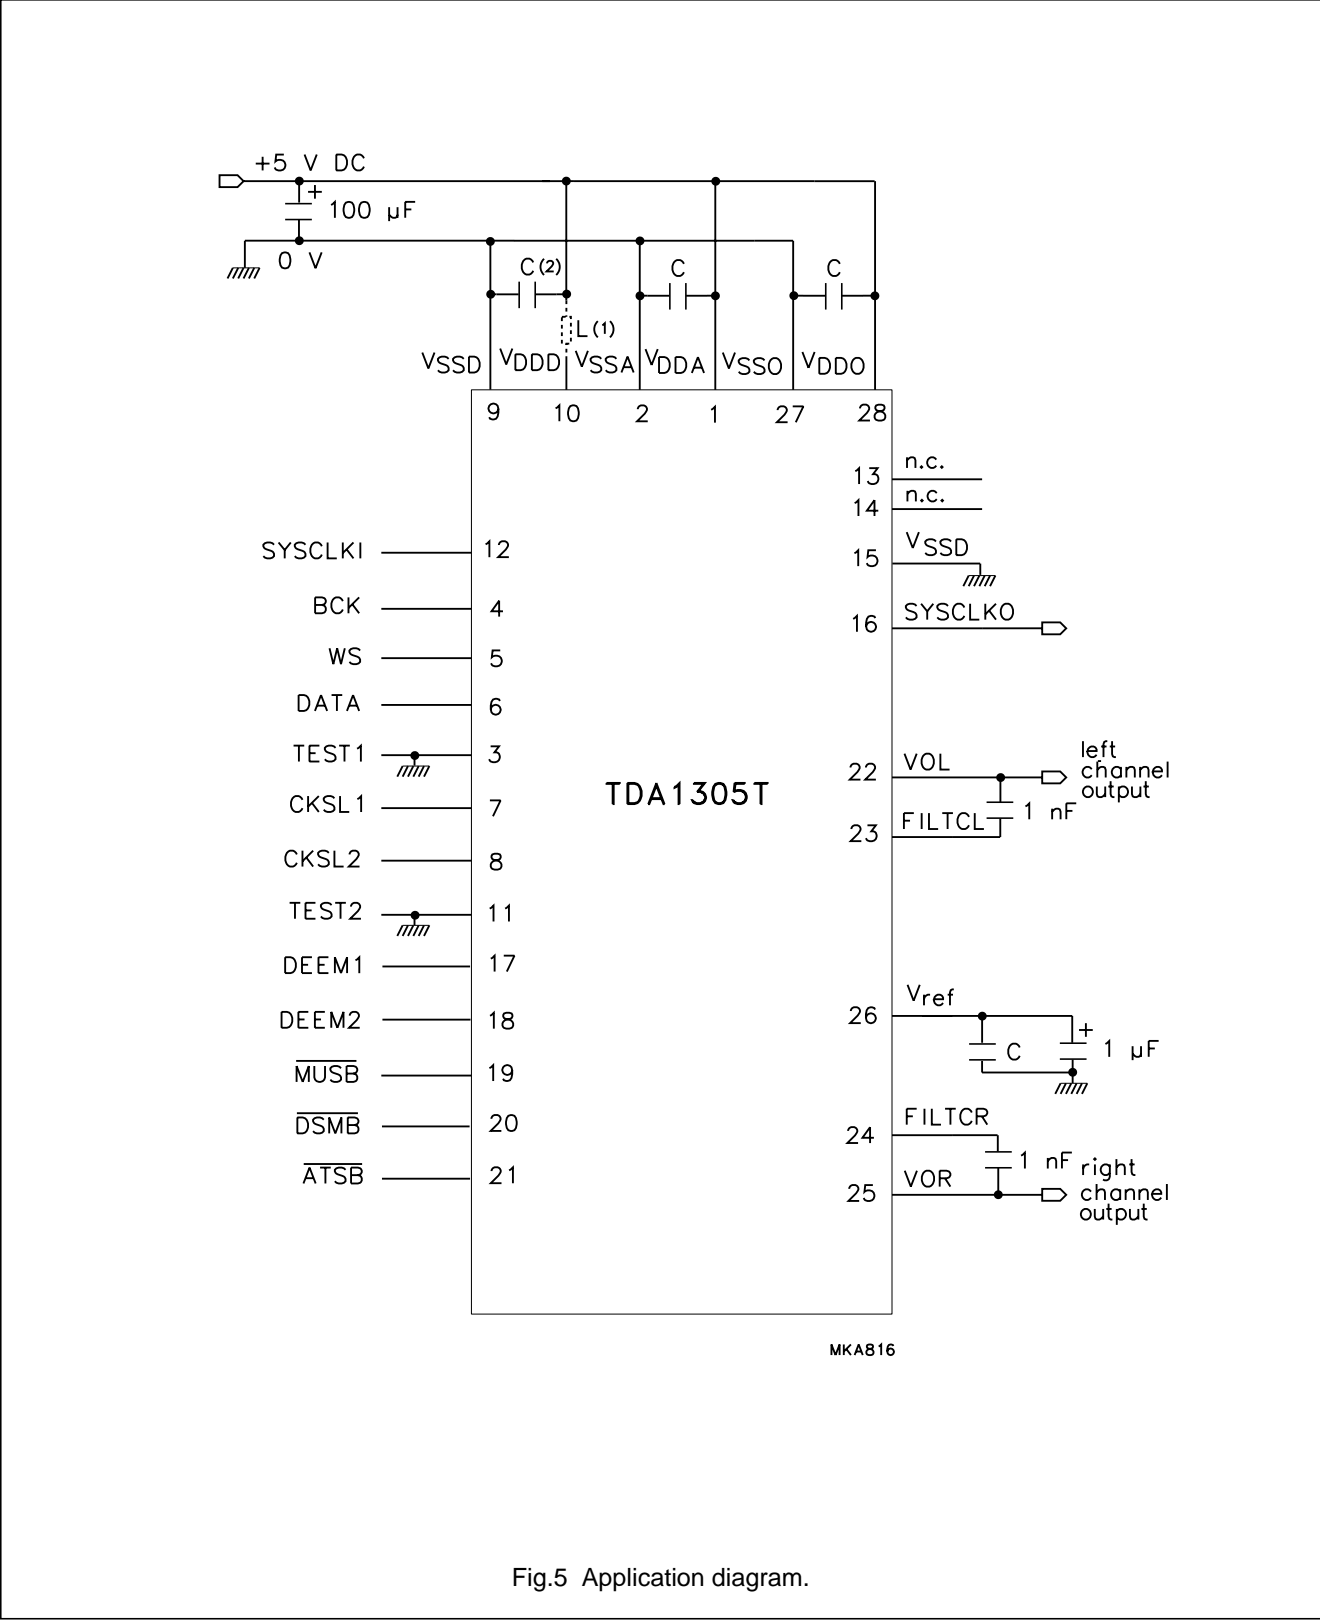

Fig.5 Application diagram.
A typical application diagram is illustrated in Fig.5. The left and right channel outputs can drive a line output directly. The series inductor (L) in the digital supply line, though not strictly necessary, helps to reduce crosstalk between the digital and analog circuits.